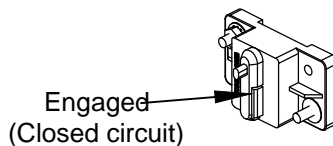

Figure 10: Engage circuit breaker.
12. **Connect** the #4 power cable to the positive side of the battery or manually **Engage** the circuit breaker (Figure 10.)